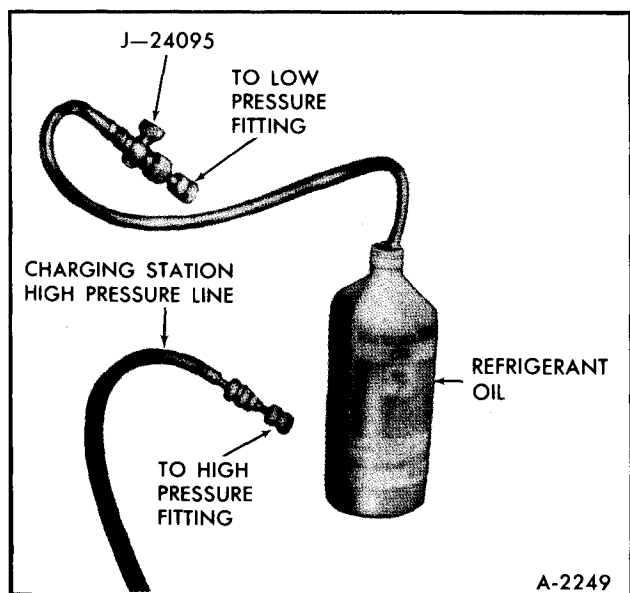

Figure 29—Adding Refrigeration Oil
a. Disconnect the Charging Station low pressure line. Install Tool J-24095 (with valve closed) onto the system low pressure fitting. Insert pickup tube into graduated container of clean refrigerant oil (figure 29).